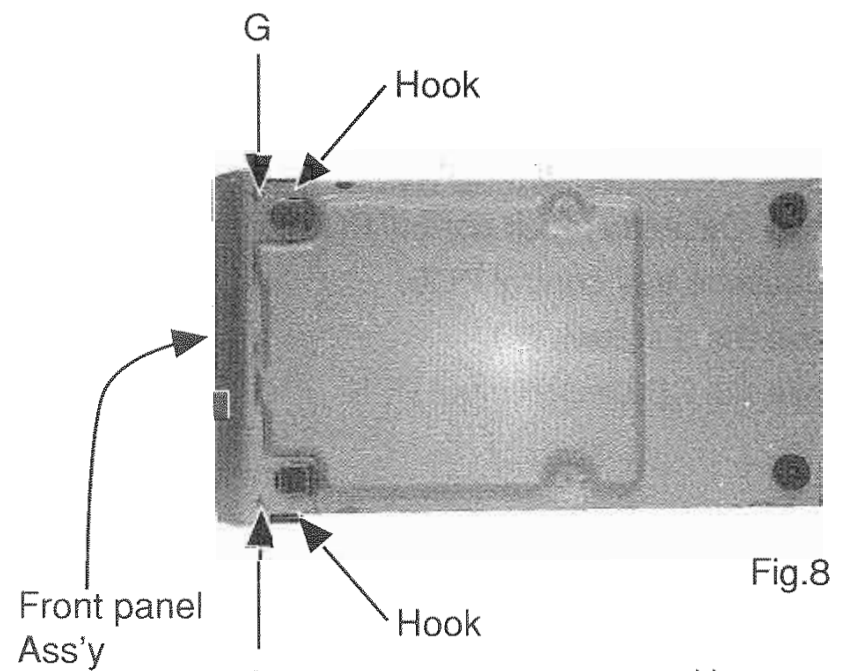

Fig.8
5. Remove the 2 screws (G) (Fig.8).